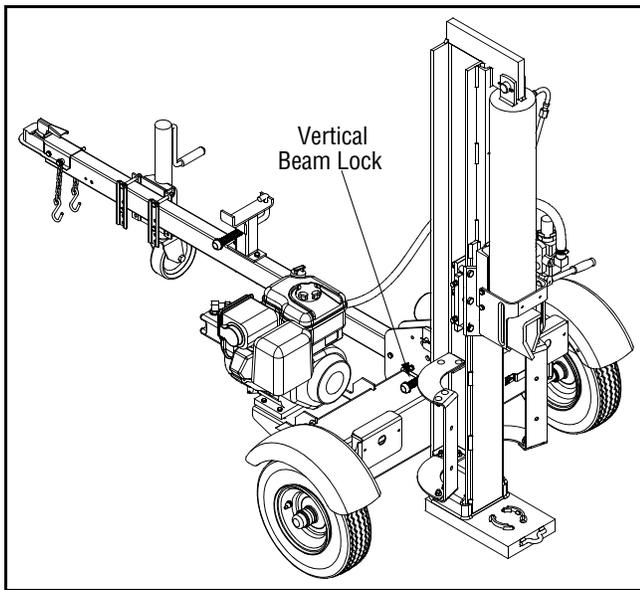

Figure 14
- To lock the beam in the vertical position, pull out on the vertical beam lock and pivot it to secure the beam. See Figure 14.